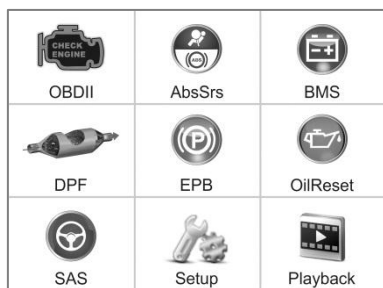

Figure 3.1
- 4) Power up the scan tool , and wait for the **Main Screen** to appear.(Figure 3.1)
- 1) Use the **LEFT/RIGHT** scroll button to select **Playback** from **Main Screen** (Figure 3.1), and press the **OK** button. Wait for the **Review data** screen to appear. The recorded files are identified by different diagnostic functions, such as OBD II diagnostics, OilReset, ABS/SRS, EPB, SAS and DPF and will be saved in corresponding folders.